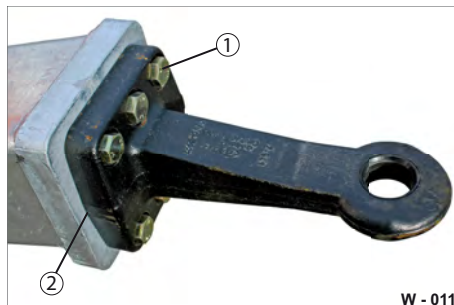

Fig. 14 Towing eye connection
- Retighten the bolts (Fig. 14/1) in crosswise sequence.